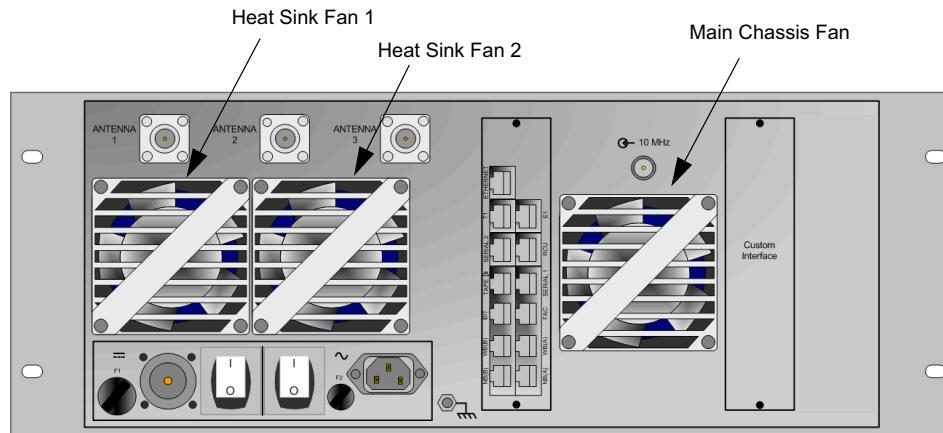
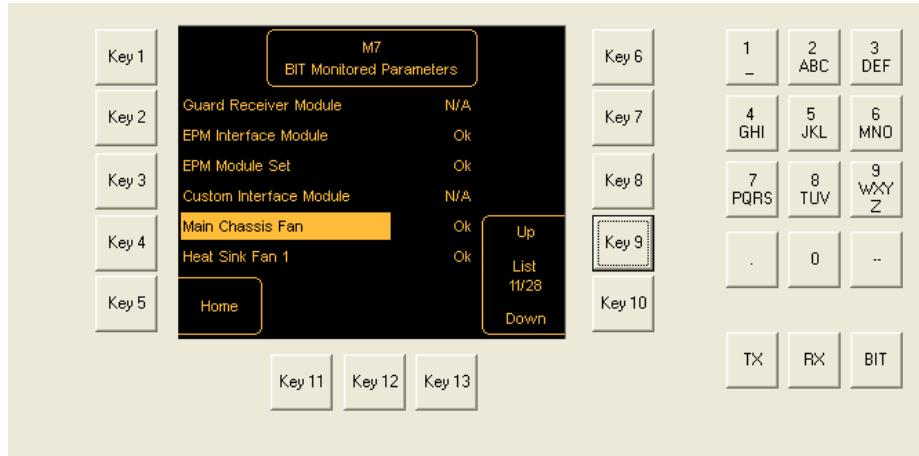

Fig 5-7 Fan Identification
Fig 5-8 Fans – BIT Reporting
Three fans are fitted on a transceiver's rear panel as shown in Fig 5-7. The serviceability of each fan is reported through the BIT system as shown in Fig 5-8.
- (6) Push the finger guard onto the fan's body.
- (7) Reapply power to the radio. Ensure that the fan is operating and that the appropriate BIT parameter (Fig 5-8) reads **OK**.